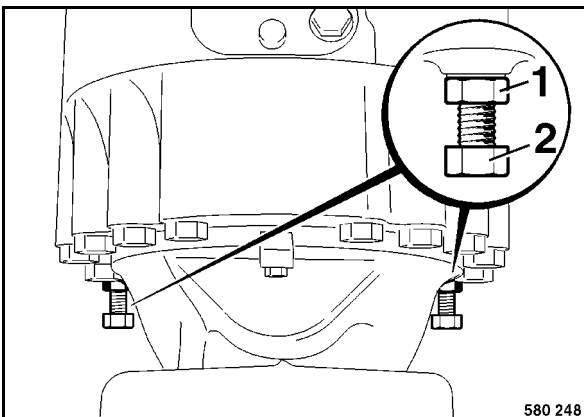

Fig. 109
- To release the brake turn counter nuts (1) (Fig. 109) approx. 8 mm back.
- Turn the brake releasing screws (2) completely in against the stop.